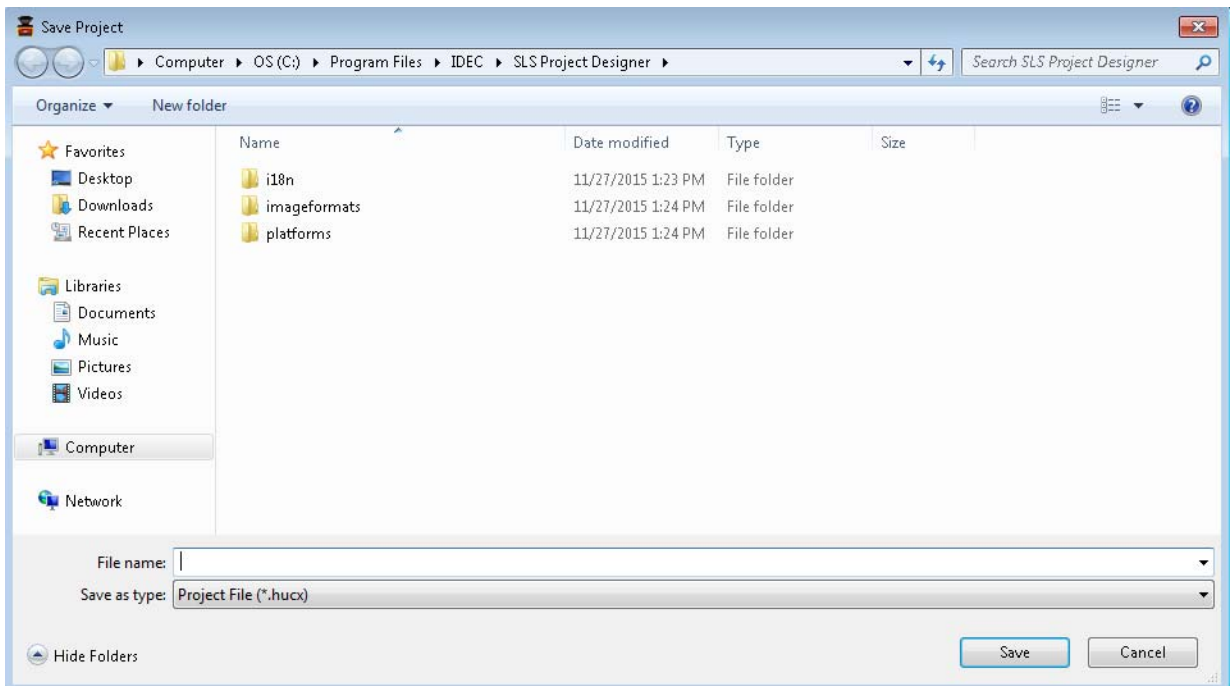

Figure 7-51 Save project file
- c) Enter a file name and click Save button. Change the location of the file if necessary. (Figure 7-51)